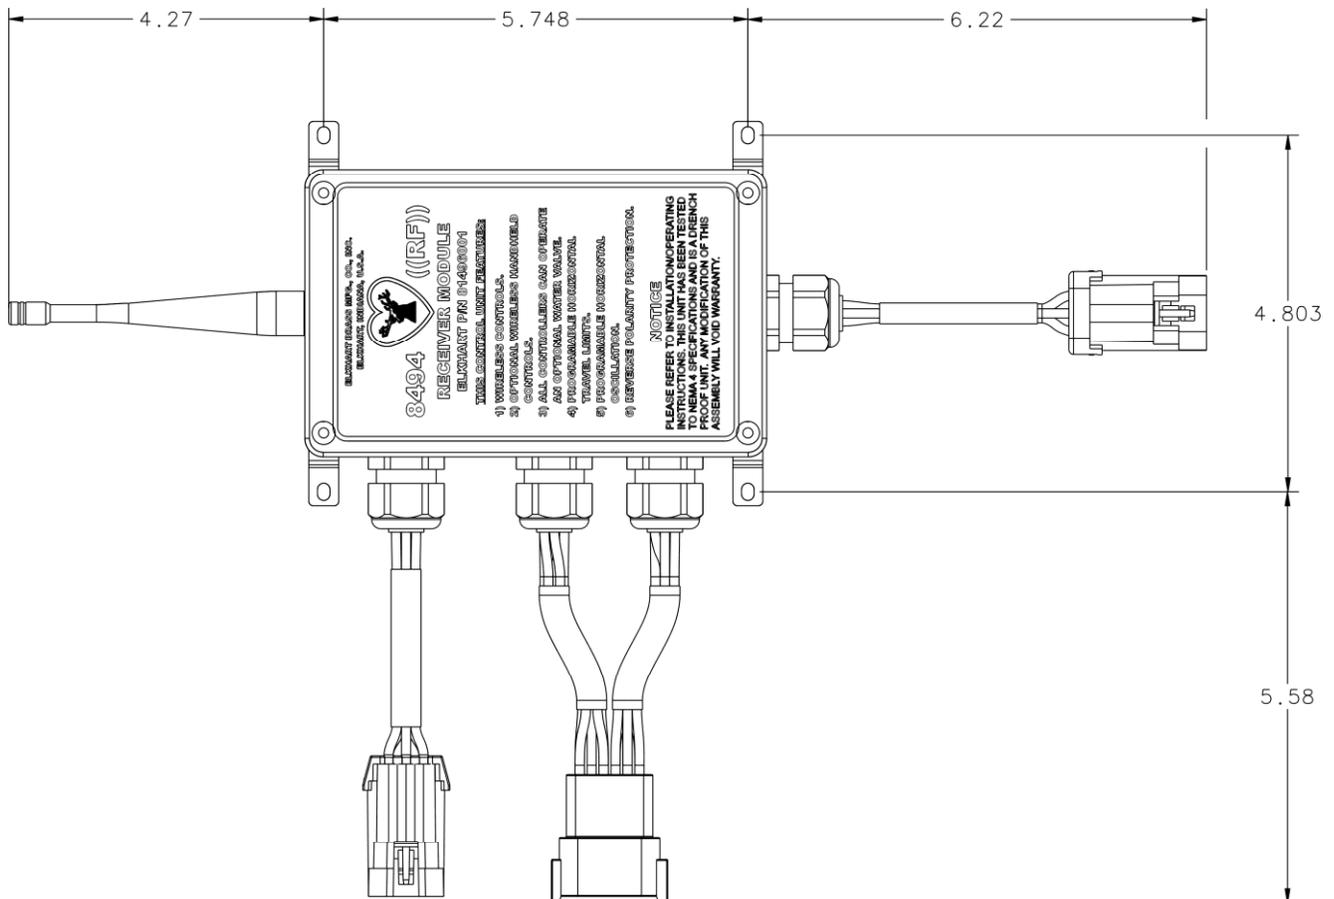

Figure 10
- 3) Mark the mounting screw pattern per dimensions in Figure 10.